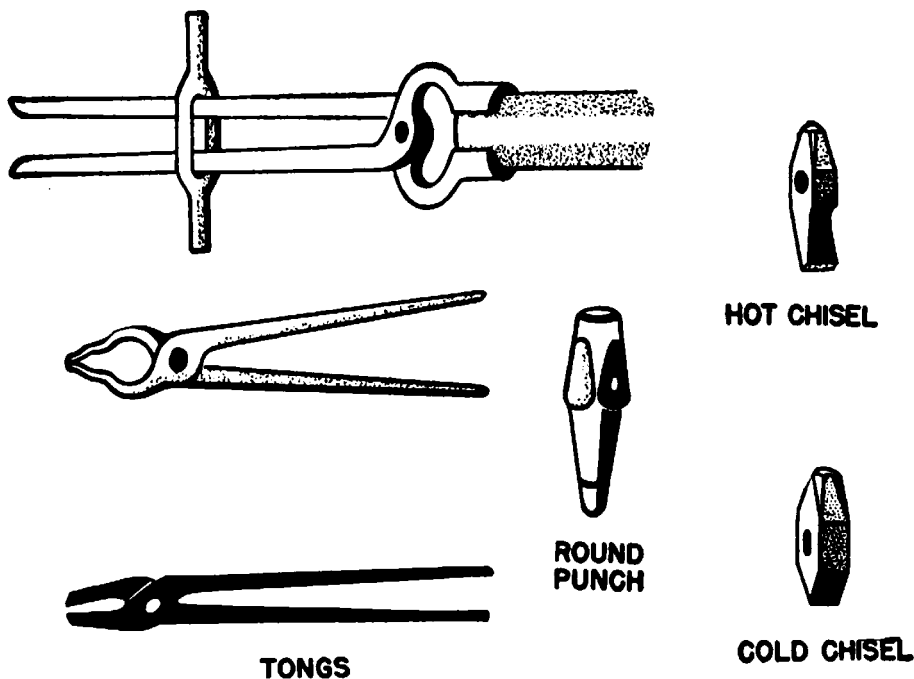

Figure 201.—More forging tools.
inside corners and inside angles. The **SET HAMMER** and the **FLATTER** are used to smooth and finish flat surfaces. These tools are all shown in figure 201.
The **HOT CHISEL**, figure 201, is really a special hammer with a chisel edge. It is used only when you want to cut **HOT** metal. To use it, place the metal on the
The **COLD CHISEL**, figure 201, is heavier and stronger than the hot chisel. It also has a handle so you can hold it in place while you pound on it.
**PUNCHES** are used to punch holes in **HOT** metal. In addition to the **ROUND PUNCH** shown in figure 201,